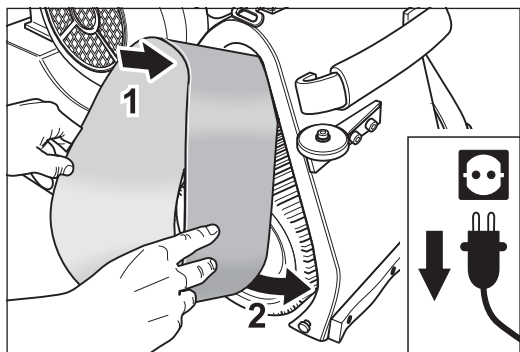
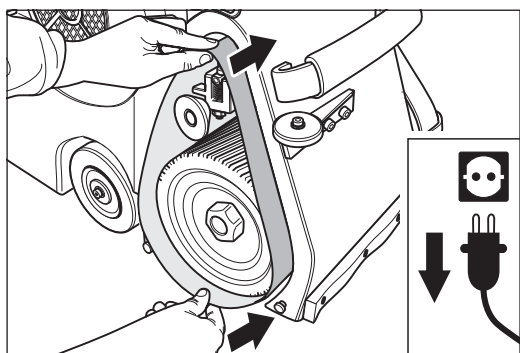

Fig. 8 Position the sanding belt on the tensioning roller of the drive unit. Similar to figure.
Fig. 9 Push the sanding belt over the tensioning roller and sanding drum. Similar to figure.
- 9 Position the sanding belt on the tensioning roller of the drive unit (Fig. 8) and push it over the tensioning roller and the sanding drum (Fig. 9).